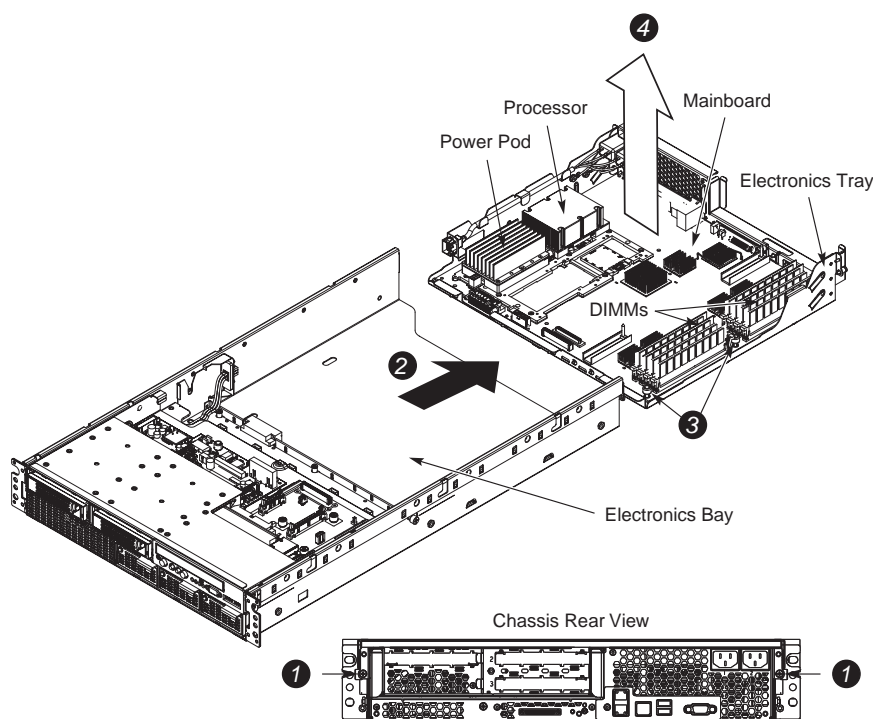

Figure 67. Removing the Main Board
8. Locate and loosen two captive screws at the rear of the chassis securing the electronics bay to the main chassis. See number 1 in *Figure 67* to locate the screws.